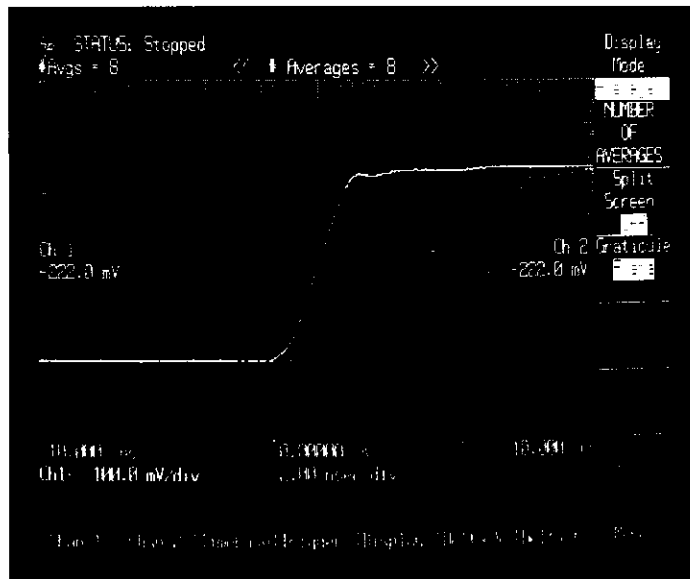

Figure 7-24. Time delay Chan 1 to Chan 2
1. Connect a cal signal to chan 1 using a 1 metre BNC cable, connect the other cal signal to chan 2 using a 2 metre cable. The time delay between the signals that is created by the unequal cables is approximately 6.4 ns. (See figure 7-24)